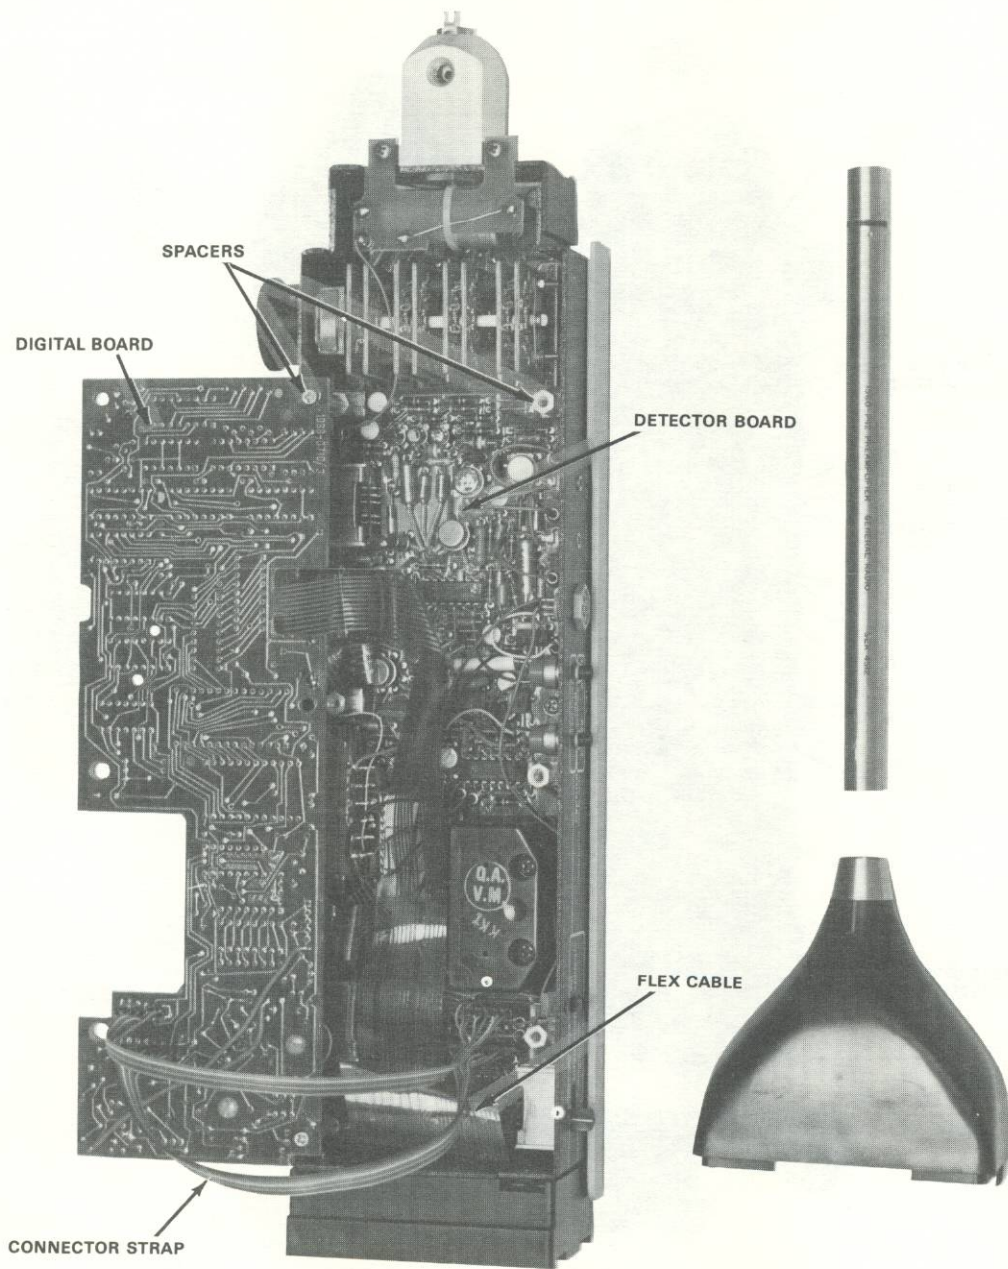

Figure 5-1b. Digital board extended on chassis.
- e. To operate the 1988 this way, attach the digital board to the instrument chassis, as shown in Figure 5-1b. Use 2 1-in. spacers and 2 1-1/4-in. 4-40 screws. Connect P8 and P12 on the Digital Board to J8 and J12 on the Detector Board using extension cables; reinstall the battery pack.